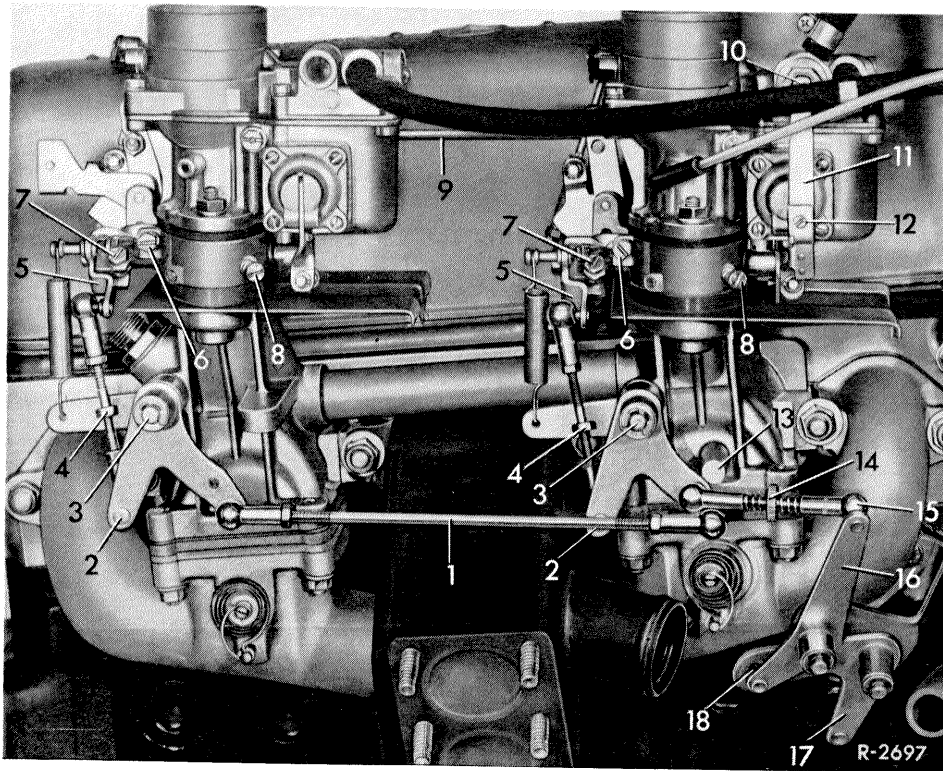

Fig. 15 Carburetor arrangement and linkage
2. Adjustment of starter connecting rod (9) Fig. 15.
Allow engine to idle for a short time and stop. Tighten adjusting screw (12) until leaf spring (11) rests against valve bolt without tension (fig. 15).